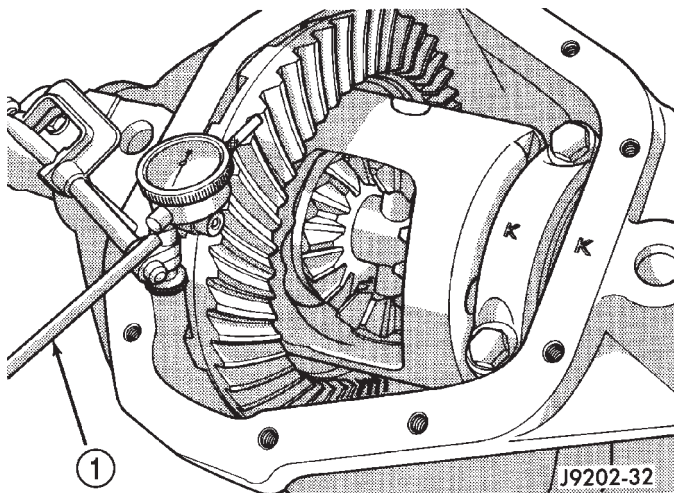
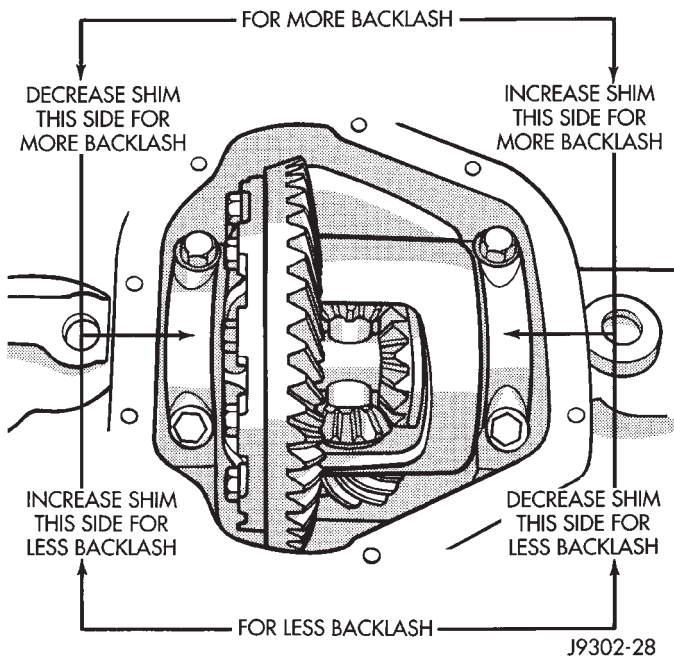

Fig. 92 Ring Gear Backlash Measurement
Fig. 93 Backlash Shim Adjustment
(31) Install spreader W-129-B, utilizing some items from Adapter Set 6987, on axle housing and spread axle opening enough to receive differential case.
(32) Install differential case into the axle housing.
(33) Remove spreader from axle housing.
(34) Rotate the differential case several times to seat the side bearings.
(35) Position the indicator plunger against a ring gear tooth (Fig. 92).
(36) Push and hold ring gear upward while not allowing the pinion gear to rotate.
(37) Zero dial indicator face to pointer.
(38) Push and hold ring gear downward while not allowing the pinion gear to rotate. Dial indicator reading should be between 0.12 mm (0.005 in.) and 0.20 mm (0.008 in.). If backlash is not within specifications transfer the necessary amount of shim thickness from one side of the axle housing to the other (Fig. 93).
(39) Verify differential case and ring gear runout by measuring ring to pinion gear backlash at eight locations around the ring gear. Readings should not vary more than 0.05 mm (0.002 in.). If readings vary more than specified, the ring gear or the differential case is defective.